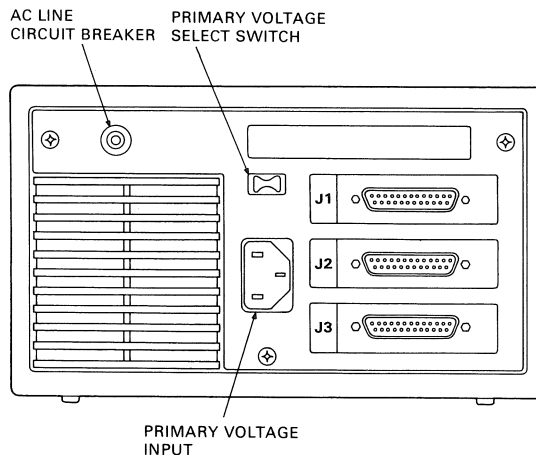

Figure 3-3 Rear Panel
The rear panel contains the circuit breaker (CB) that fuses the ac power coming into the subsystem and the primary voltage selection switch (VOLT SEL) set for either 120 Vac or 240 Vac. It also contains the ac line connector that accommodates the ac power cord, the dc fan housing exhaust opening, and connectors J1 through J3. Figure 3-3 shows the rear panel layout.